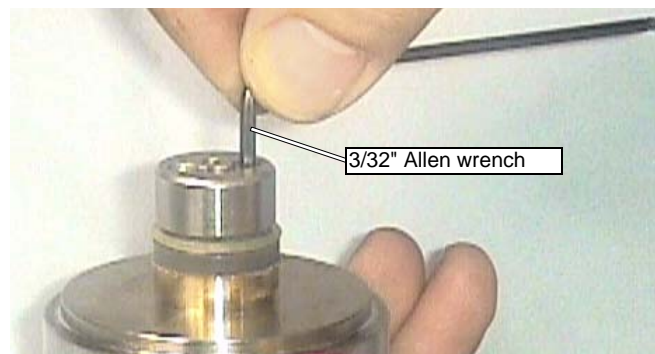

Figure 5-26: Tightening the Socket Head Screws
6. Using the 3/32" Allen wrench, tighten the two Socket Head Screws from 3 to 5 in-lbs (.34 to .57 N·m). Holding the Allen wrench as shown in Figure 5-26 prevents over tightening the screws.